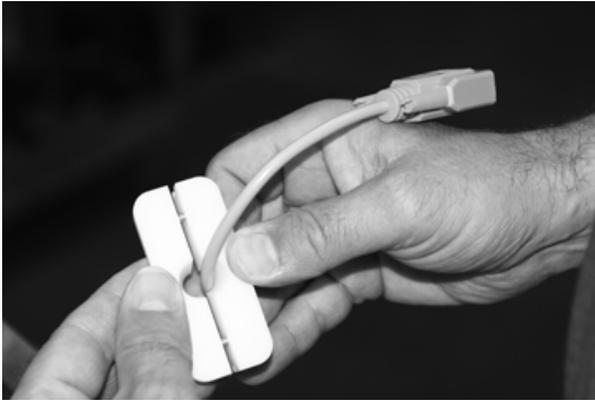

Figure 1-10. Assemble Split Seal Plates Together
9. Assemble the split seal plates back together with the cable in between. See Figure 1-10.